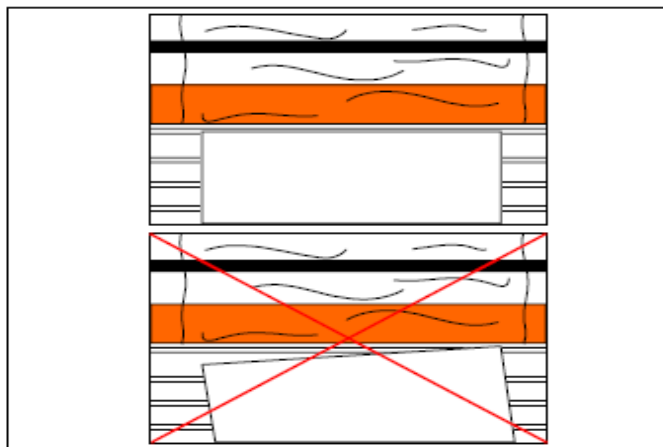

Fig. 27
10. Align the leading edge of the item square to the heat roller nip (Figure 27).